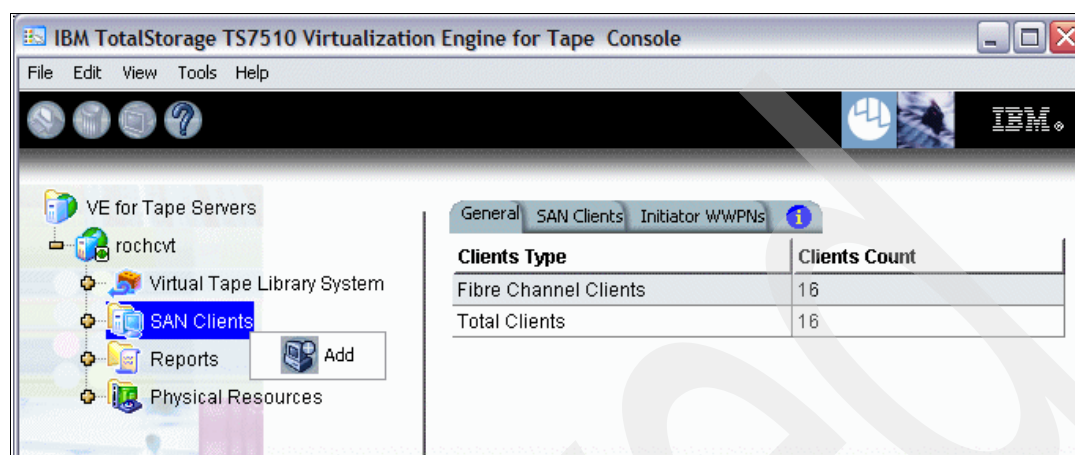

Figure 5-44 Adding SAN clients
1. Right-click the **SAN Client** icon and select **Add**, as shown in Figure 5-44.